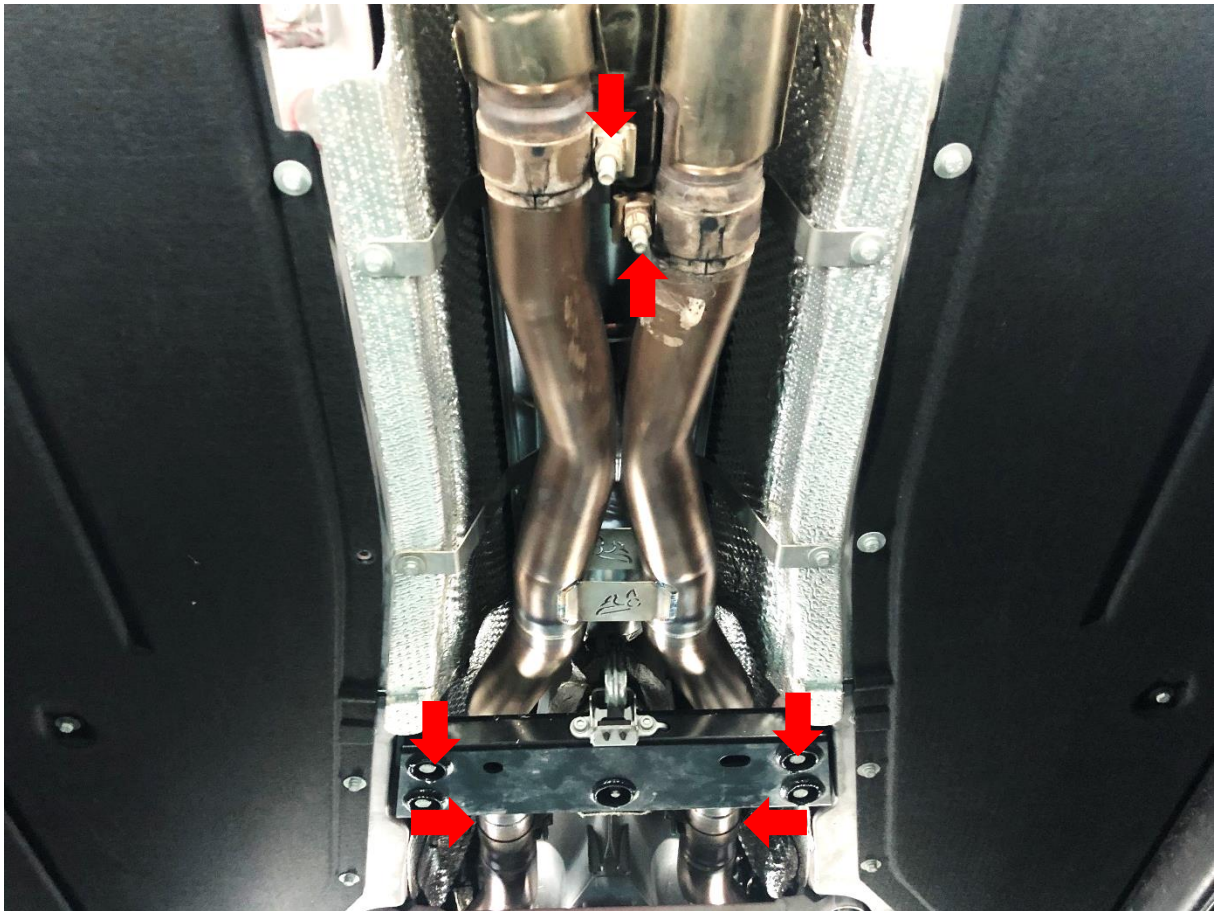

Fig. 12
3. After the mid pipe is installed, adjust the clamps and lock it. (Fig 12)